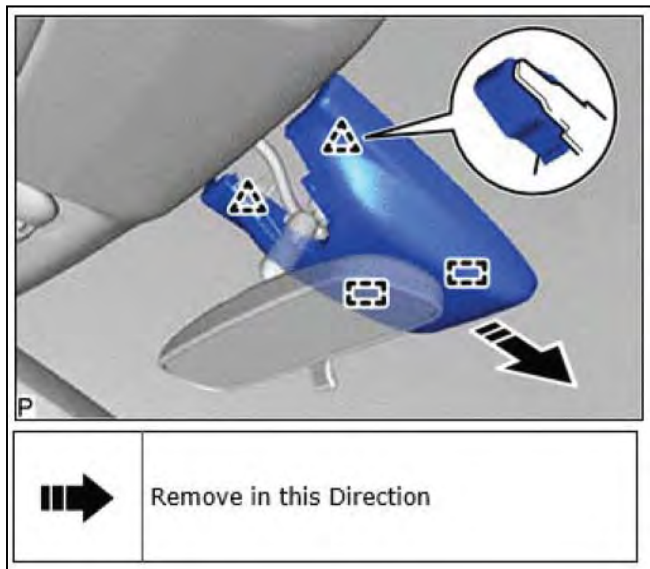

Figure 8b
- b. Disengage the 2 clips and 2 guides to remove the No. 1 forward recognition cover as shown in the illustration. See figure 8b.